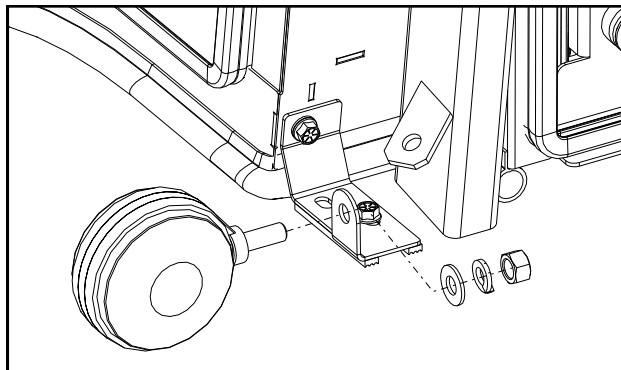

Fig. 19.1 (re-install turn signal lights - left fender)
**19.1** Re-install turn signal lights to the cab's fender brackets (B2301 or B2601) or signal light brackets (B2401) using the O.E.M. (original equipment manufacturer) hardware. See fig. 19.1. Reconnect the wiring.